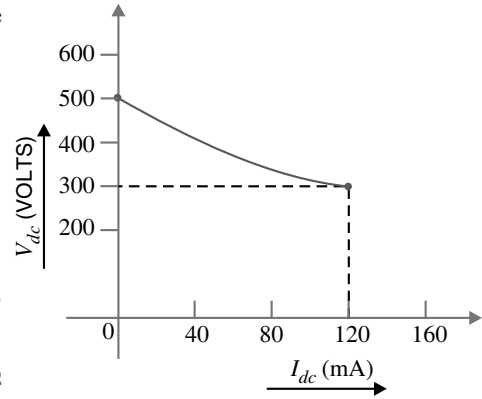

Fig. 15.4
**Example 15.5.** Fig. 15.4 shows the regulation curve of a power supply. Find (i) voltage regulation and (ii) minimum load resistance.
**Solution.** Referring to the regulation curve shown in Fig. 15.4, it is clear that :